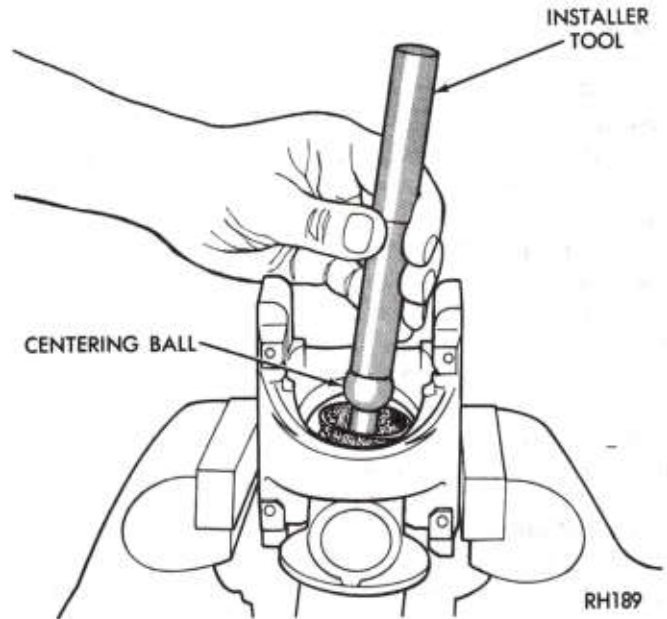

Fig. 19—Center Ball Installation (Tool C-4365-3)
(1) To install centering ball onto stud, use Tool C-4365-3 and drive until ball can be seen to seat firmly against the shoulder at the base of the stud (Fig. 19).
(2) To install cross assembly, install one bearing cup part way into one side of the yoke and turn this yoke to the bottom. Insert cross into yoke so that the trunnion seats into the bearing cup. Install the opposite bearing cup part way. Press the bearing cups, working the cross to insure free movement of the trunnions in the bearings.
(3) When one retaining ring groove clears the inside of the yoke, stop pressing and snap the retaining ring in place.
(4) Continue to press until the opposite retaining ring can be snapped into place. If difficulty is encountered, strike the yoke ear firmly with a hammer to seat the retaining rings.
(5) Relube the center ball and socket and assemble the other half of the universal joint in the same manner.